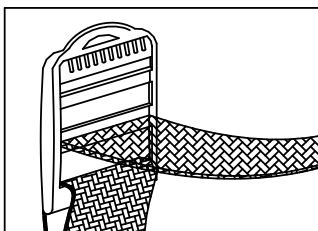
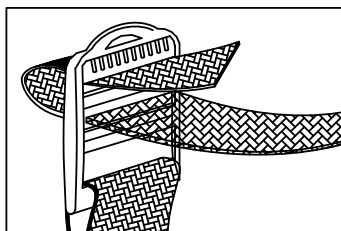
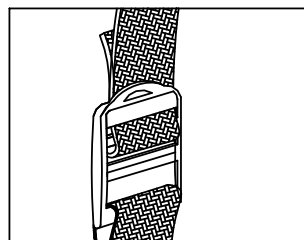

FIGURE 1
FIGURE 2
FIGURE 3
B. Secure the shoe bag as shown below following FIGURE 1, then FIGURE 2 and FIGURE 3.